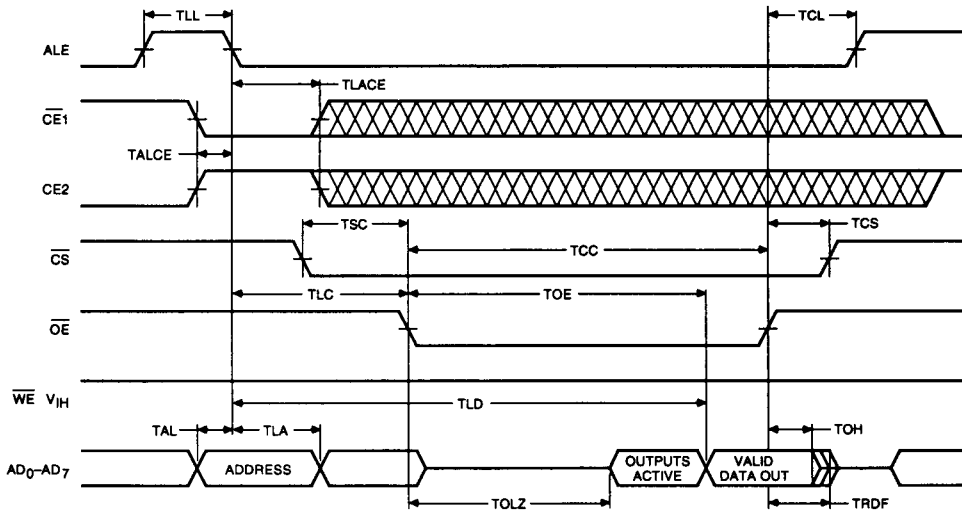

Figure 2. Read Timing
Figure 2 shows the timing diagram for READ operation. The address as well as the states of $\overline{CE1}$ and CE2 are latched on the falling edge of ALE. Pins 1 through 7 are used for address bits.
*See Figures 2 and 3.